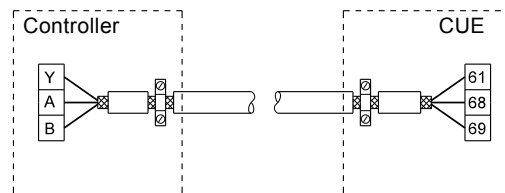
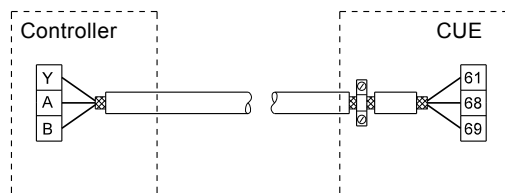

Fig. 39 Example of connection of a 3-conductor bus cable with screen connected at both ends
Fig. 40 Example of connection of a 3-conductor bus cable with screen connected at the CUE (controller with no cable clamps)
- Connect the screen to ground at both ends for both motor and signal cables. See fig. 39. If the controller has no cable clamps, connect only the screen to the CUE. See fig. 40.